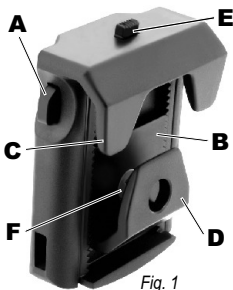
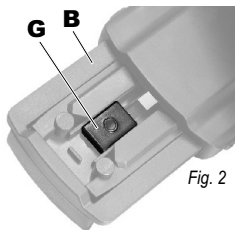
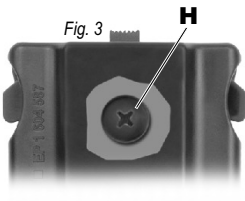

Fig. 1
Fig. 2
Fig. 3
- The ESP baton should be inserted into the holder as shown in Fig. 1. After it was inserted into the holder, move the baton along to the holder's axis in the direction of the flexible stop L (see Fig. 2) until it gets fixed in the ready position. The wrong insertion of the baton is shown in Fig. 3.
- You can choose the position, in which the baton will be locked – either in top or bottom position, depending on your preferred manner of drawing the baton. The manufacturer supplies the holder with a safety lock, which has the **locked position in the top position** of the lock P – see Fig. 2, 4c. **Unlocking** is made by a **downward movement**. At practice when you draw the baton with one hand, it is sufficient to hold the holder lock P by the second hand, which enables quick unlocking. Should you wish to have your baton **locked in the bottom position** of the safety lock P, make disassembly in accordance with Fig. 4a, 4b by pressing gently the safety lock P over the edge of the holder body. Follow Fig. 4d for adjustment of the latch J of the safety lock P into reverse position, and then click the lock P back and test its functionality – see Fig. 4b.
- **Locking of the baton** is now made by shifting of the safety lock P (see Fig. 2, 4d) **downwards** to the flexible stop L. **Unlocking** is done in the opposite way. The securing does not have to be done in usual use because the baton is satisfactorily fixed in the ready to use position. The safety lock is useful only in situations, when there is an extreme possibility of the baton loss. The holder works also when the lock is completely removed from the holder – see Fig. 4a, 4b. The Figures 4c or 4d and 4b show the back fitting of the safety lock.
- The holder allows for the carry of the open baton, when, for example, the user has no time to close it and he needs, at the same time, his hands free for other activities. Put the baton into the holder in the same way as described in Point 1, according to Fig. 1. Spread the flexible stop L with the middle baton section (of the diameter 16 mm). Then, use the usual process.
- The resistance of the rotary mechanism can be adjusted, when **the turning is too difficult** (or too easy). This is done by the manual moving of the slider K (see Fig. 2) to the lower position, toward the flexible stop L. This reveals the fixing bolt H. Loosen or tighten slightly the fixing bolt H with a Phillips screwdriver so that the resistance force suits your needs. Then, return the slider K back to the original position.
- **It is impossible to insert the baton into the holder** – slider K got by incorrect manipulation in to bottom position by the flexible stop L – shift the slider to the second extreme (top) position as Fig. 2 shows it.
- The resistance of the rotary mechanism can be adjusted, when **the turning is too difficult** (or too easy). This is done by slight loosening or tightening of the fixing bolt **H** with a cross-head screwdriver so that the resistance force suits your needs – **see Fig. 3**.